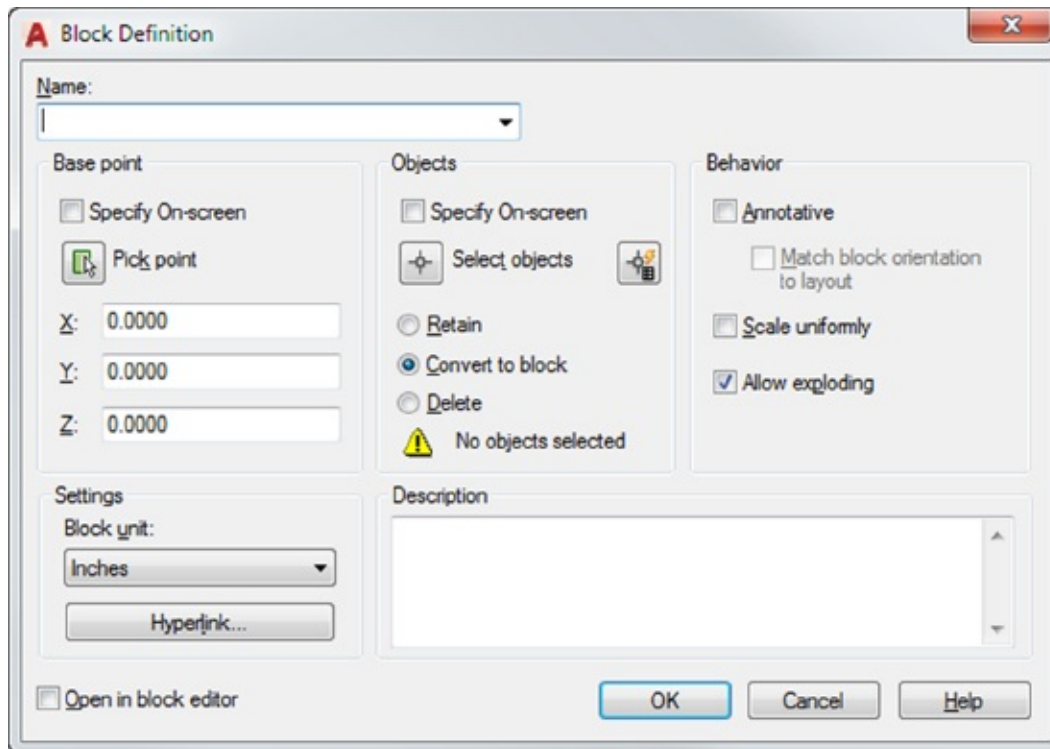

FIGURE 4.1 The Block Definition dialog box
2. In the Home tab's Block panel, click the Create tool or type **B↵**, the keyboard shortcut for the Create tool. This opens the Block Definition dialog box (see Figure 4.1).